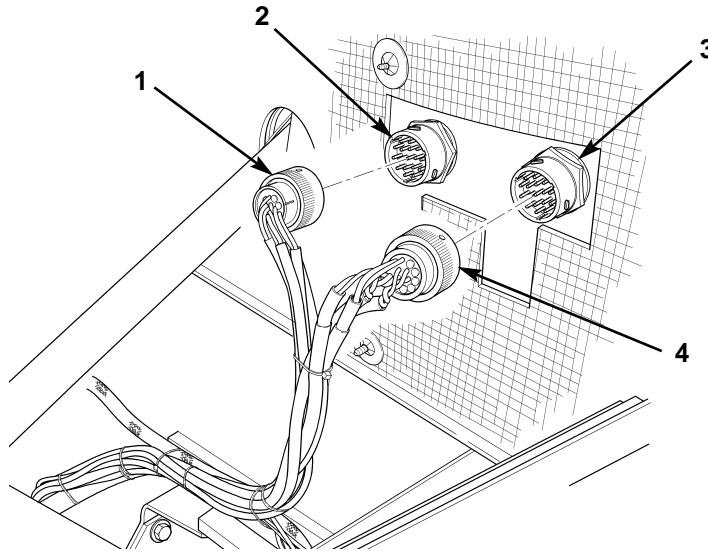

Figure 14. Connecting Harnesses to Bulkhead Connectors.
14. Connect speed sensor harness connector (figure 14, item 4) and modulator harness connector (figure 14, item 1) to ABS ECU harness bulkhead connectors (figure 14, items 2 and 3).